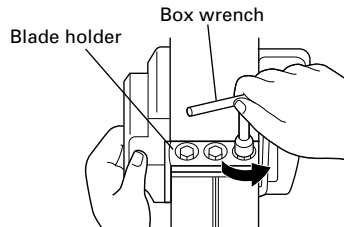

Fig. 4
- (1) As shown in **Fig. 4**, loosen the blade holder with the attached box wrench.
- (1) As shown in **Fig. 4**, use the box wrench to loosen the three bolts used to retain the carbide blade, and remove the blade holder.